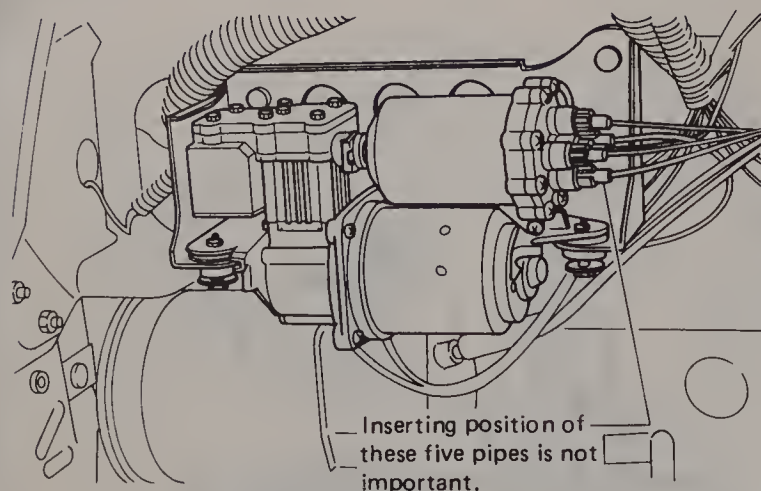

Fig. 13.60 Air suspension system compressor/dryer assembly (Sec 13)
- 16 Disconnect the five air pipes from the dryer (Fig. 13.60).